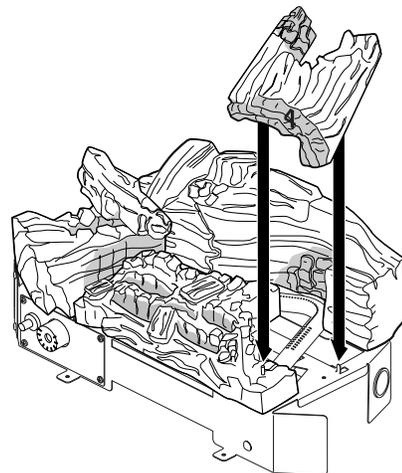

Figure 31 - Installing Log #4 (Model LGX3924NT Shown)
4. Place log #4 onto the pins on the right side of log #1 and onto the tab on the base in front of log #2 (see Figure 31).